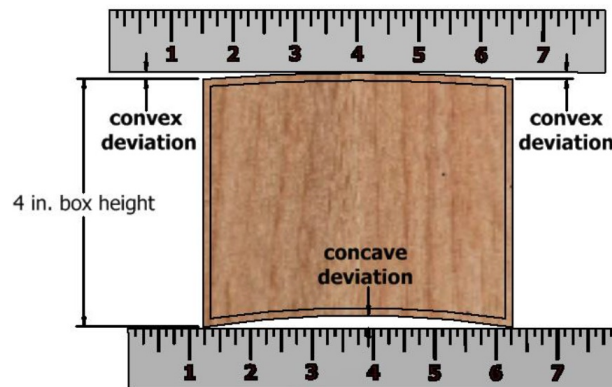

Figure 4
5.4.1 For bottom face trueness, place the box on the flat surface with the back face down as in Figure 4.
5.4.2 With the straightedge next to the **bottom** of the box on the flat surface, determine the concave deviation from true at the point of maximum deviation (see Figure 4).
5.4.3 For convex deviation from true, measure the deviation by equalizing the distance between the straightedge and the box at both corners of the box (see Figure 4).